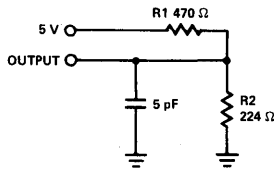

Figure 1b
8. Transition is measured at steady state HIGH level - 500 mV or steady state LOW level + 500 mV on the output from 1.5V level on the input with load shown in Figure 1b.